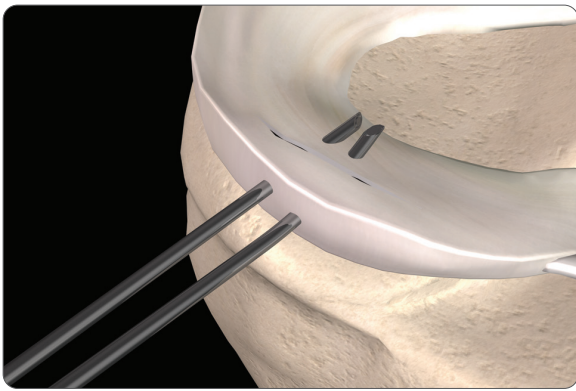

Figure 2
5. Pass the second needle (straight or curved) parallel to the first needle through the skin opening and into the joint to allow placement of suture to secure the meniscus (**Figure 2**).